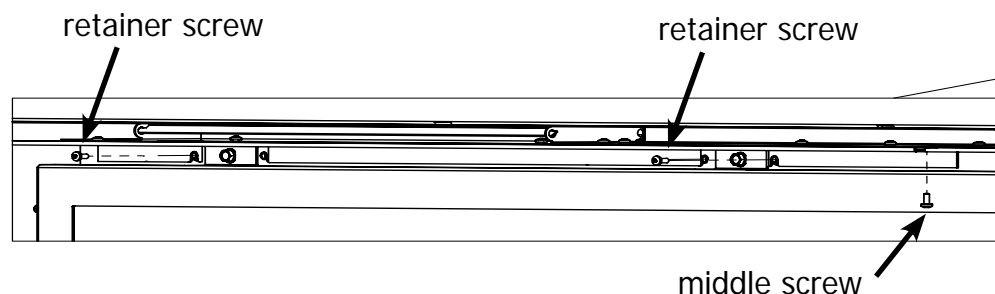

Figure 22: - Discharge Accelerator screws
2. Remove the middle screw from the Discharge Accelerator, above the door glass, tying the left and right pieces together. (see Figure 22)